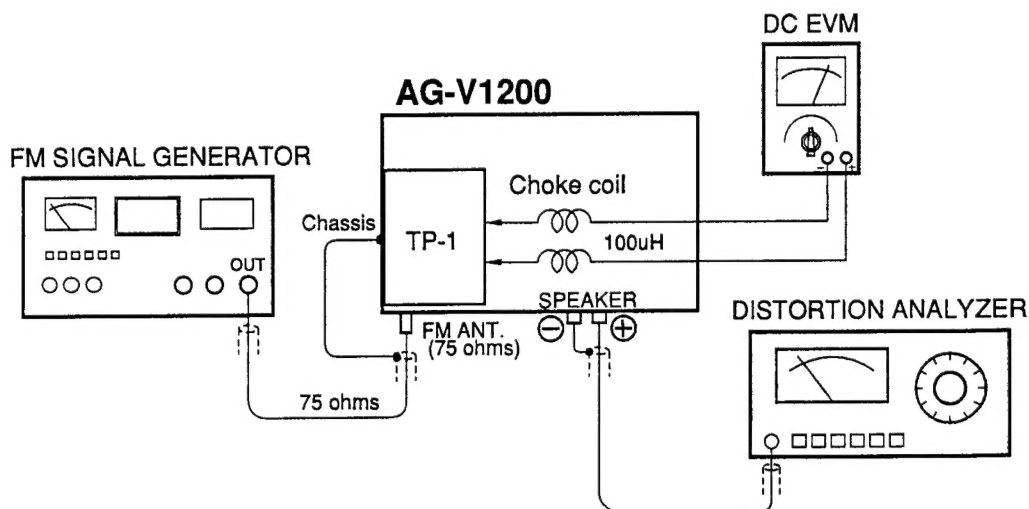

Fig. 2-2
1. Test equipment connections are shown in Fig. 2-2.